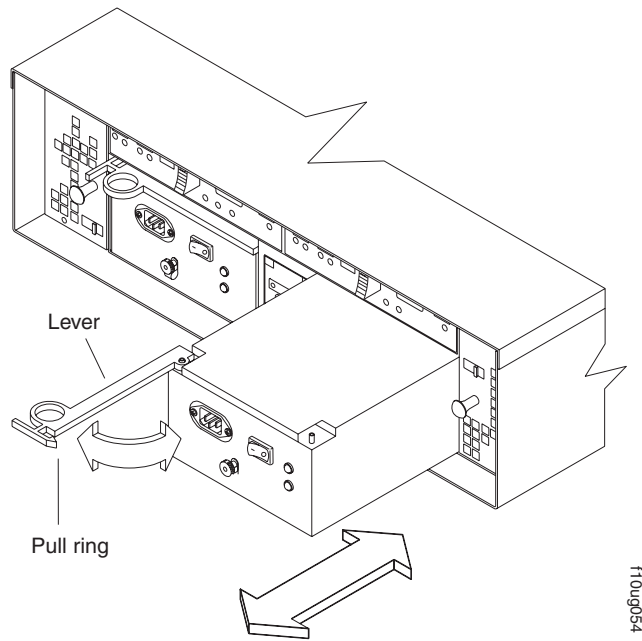

Figure 13. Removing a power supply
2. Pull the lever open 90° and remove the power supply, as shown in Figure 13 on page 29.